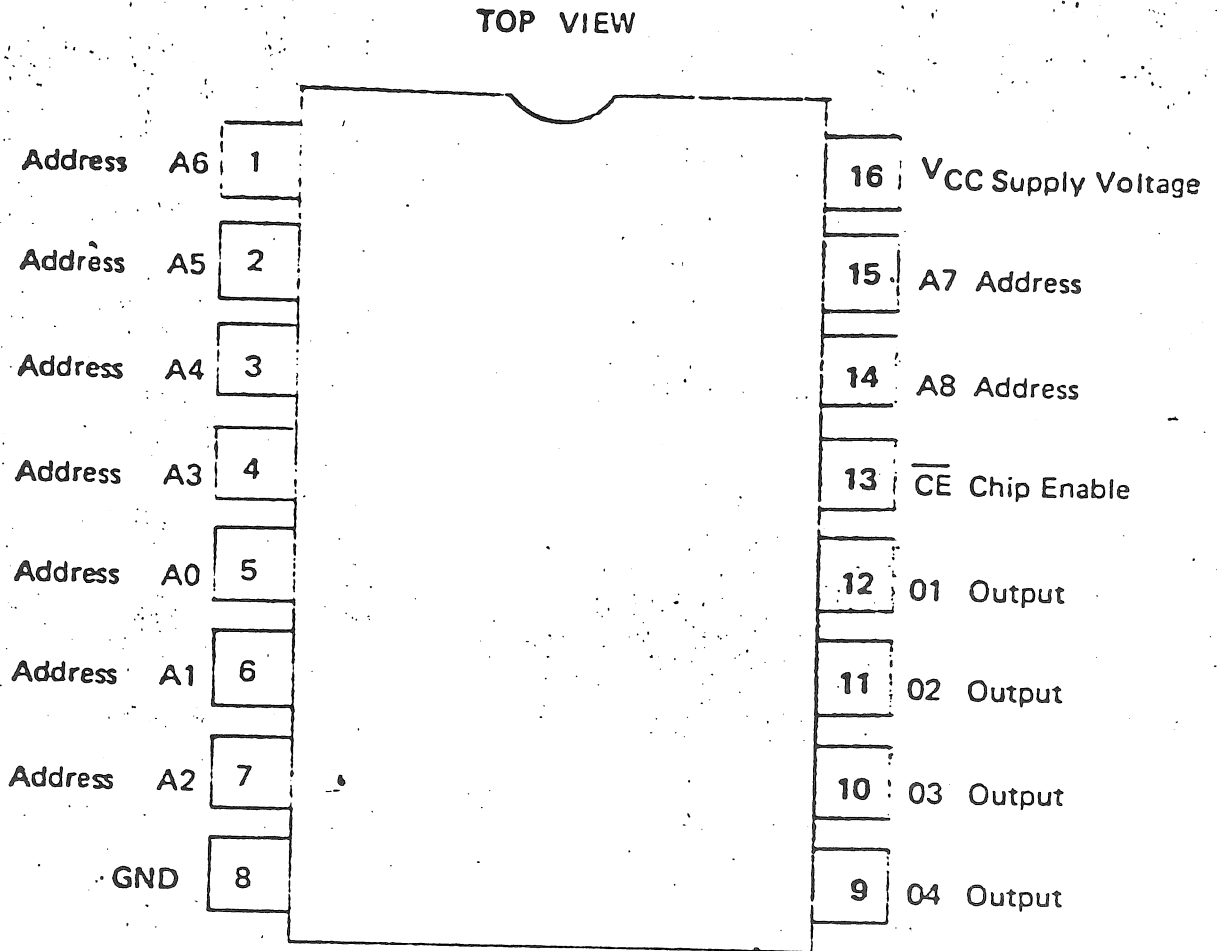

FIGURE 1
7.3.1.4 Pin Connection Diagram: - Shall meet the requirements of Figure 1.